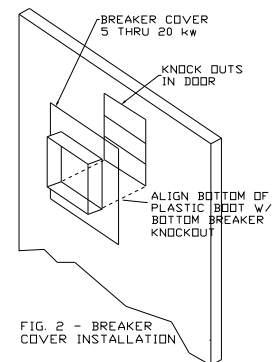

FIG. 2 - BREAKER COVER INSTALLATION
- 2) Peel off the protective film on the back of the breaker cover and align the bottom of the cover plastic boot with the lower breaker knockout section on the door (see fig. 2).